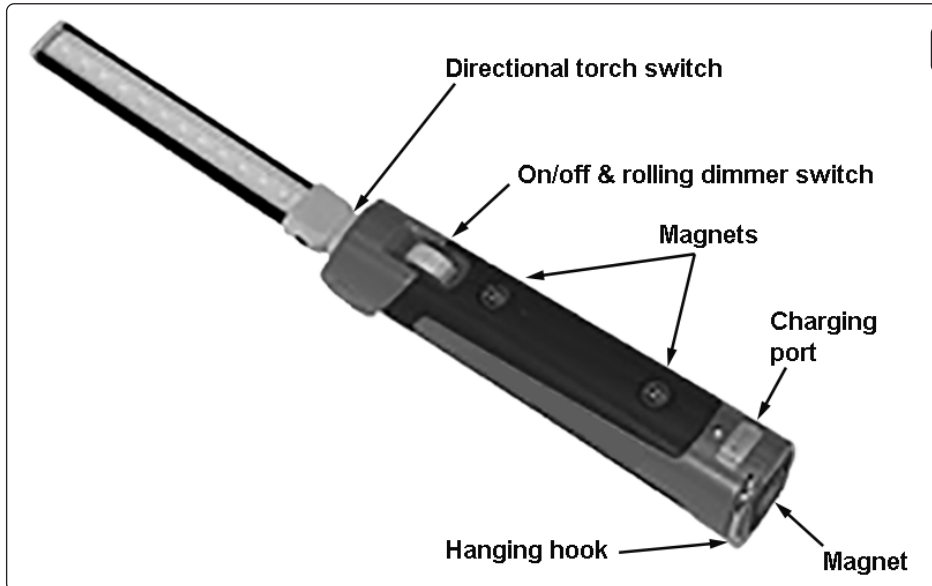

fig.1
- 4.2. Connect the charger into the charge socket on the light, see fig.1. Plug into power supply and turn on, the red charge LED on the light will light as the battery charges. When fully charged the LED turns green.
Refer to fig.1